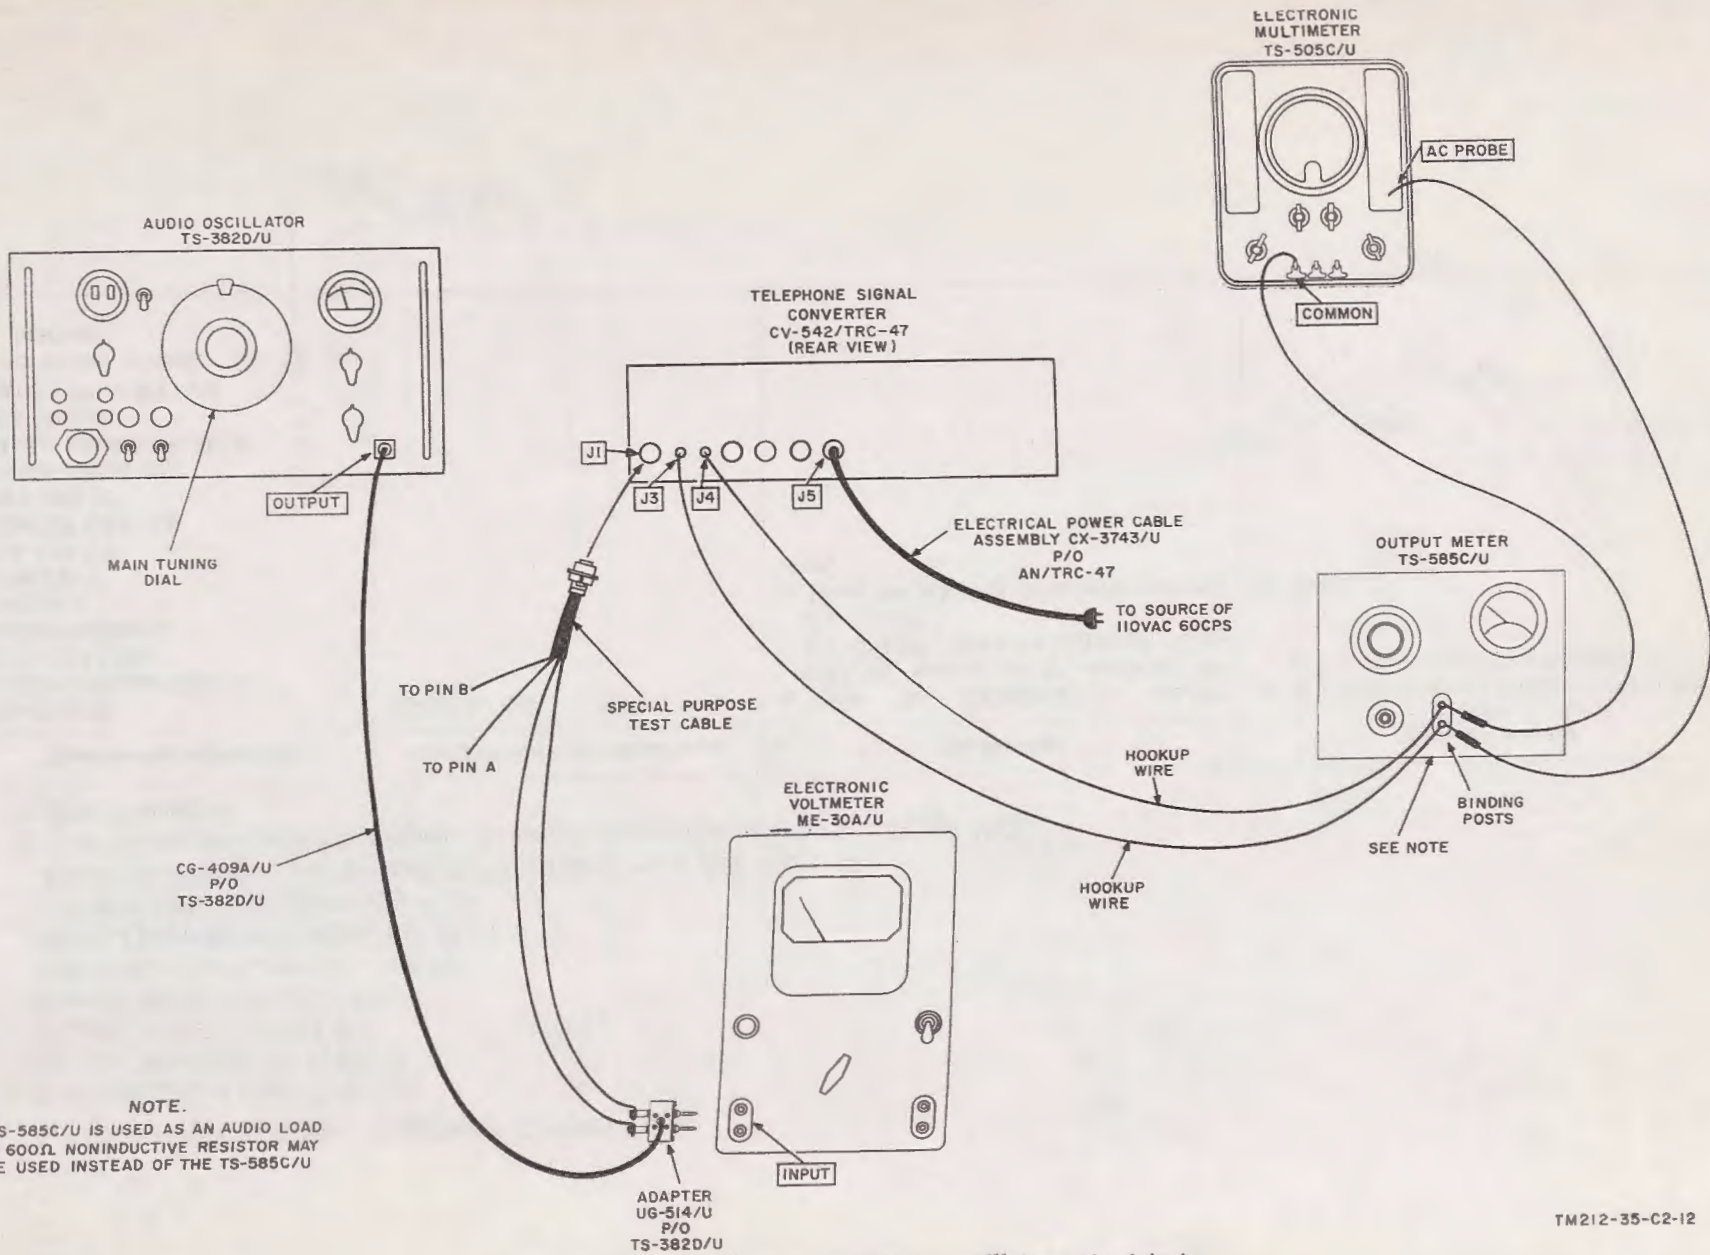

Figure 48.12. (Added) Converter 20-cps oscillator output tests.
b. Test Connections and Conditions. Connect the equipment as shown in figure 48.12.